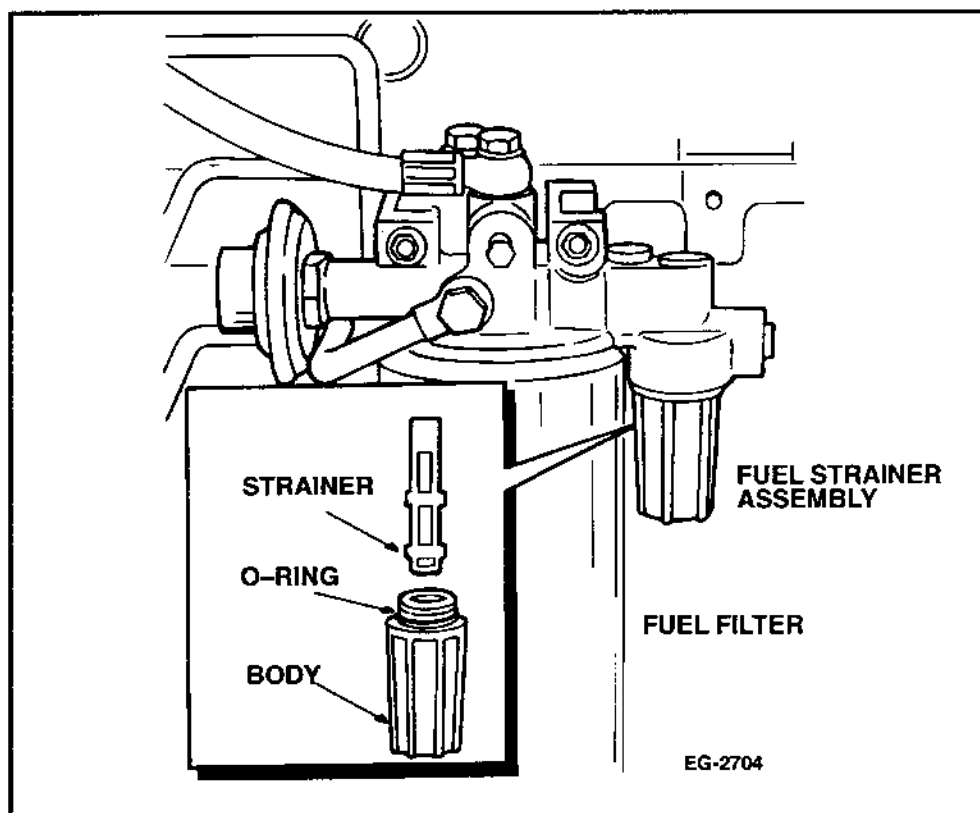

Figure 8-9 Removing Strainer Assembly
- a. Remove plastic strainer cover from filter strainer assembly using a 1-1/8 in. or 29 mm (12 point) socket. See Figure 8-9.